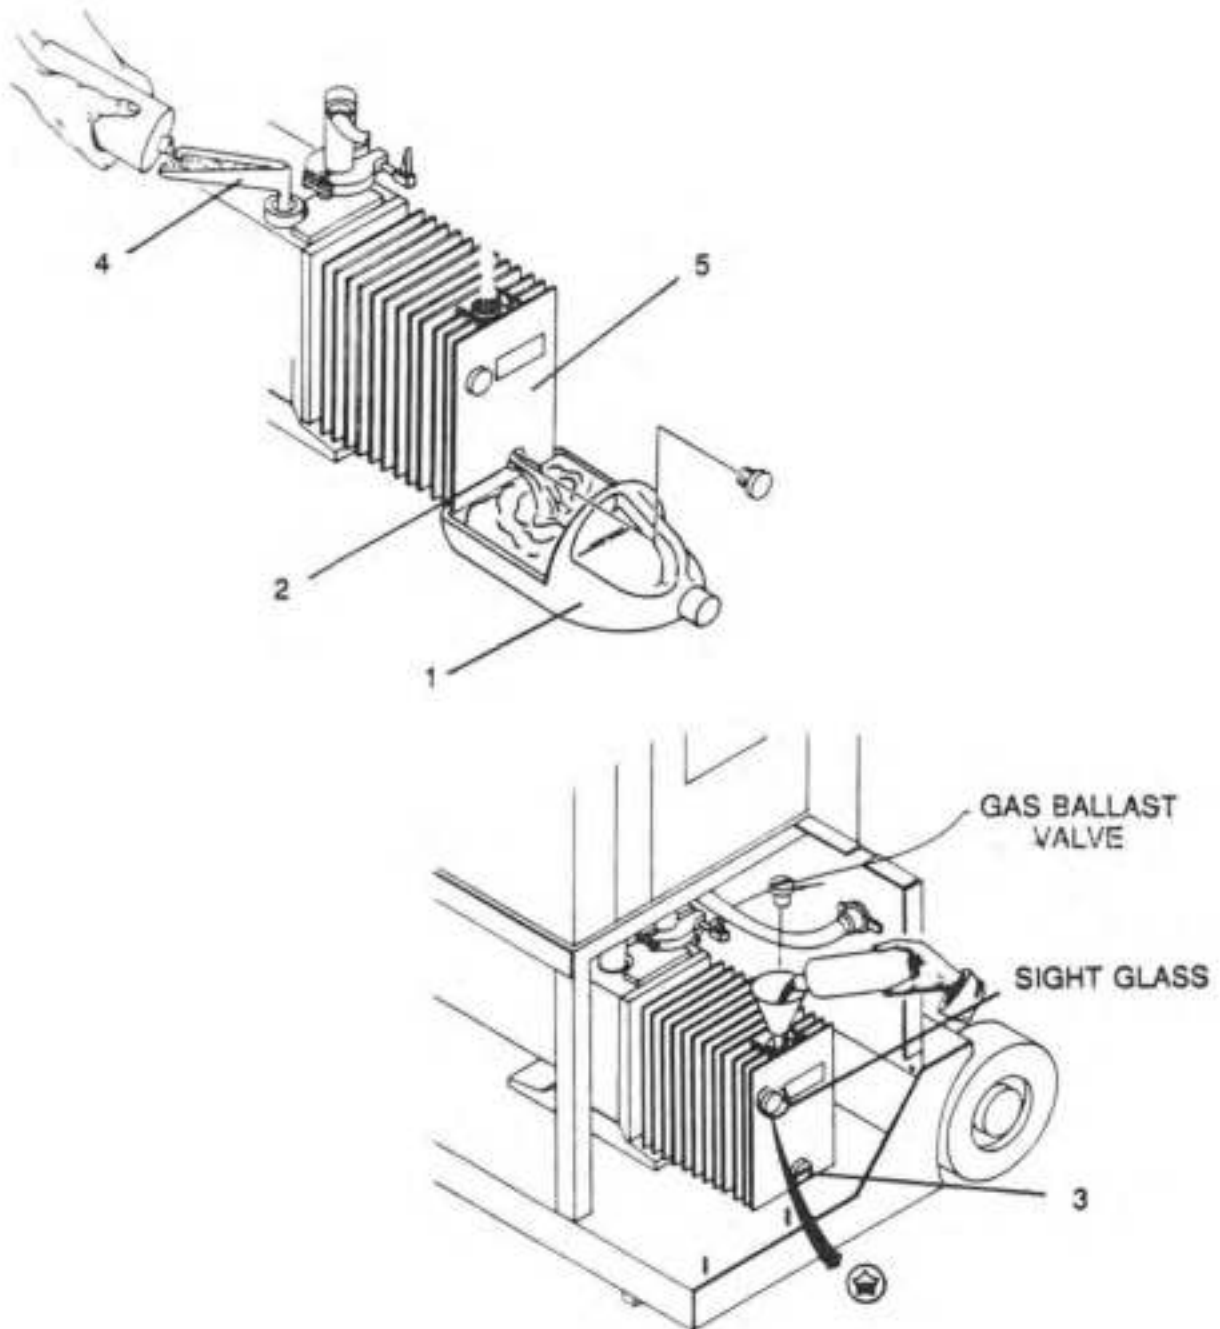

Figure 5-2. Rough Pump Flush and Oil Change.
b) Rough pump flush and oil change (See Figure 5-2)
- 5 Place a suitable drain pan (1, Figure 5-2) under the rough pump drain (2) and remove the drain plug (3). After the oil is drained, replace the plug.
- 6 With an offset funnel (4) in place in the pump inlet (not the front fill hole), plug in the rough pump (5) to turn it on and **SLOWLY** pour in approximately 1 cup of VARIAN pump oil, part no. 0491-K7516-302.
- 7 Unplug the rough pump to turn it off. With the drain pan (1) in place, remove the drain plug (3) and allow the pump to drain.